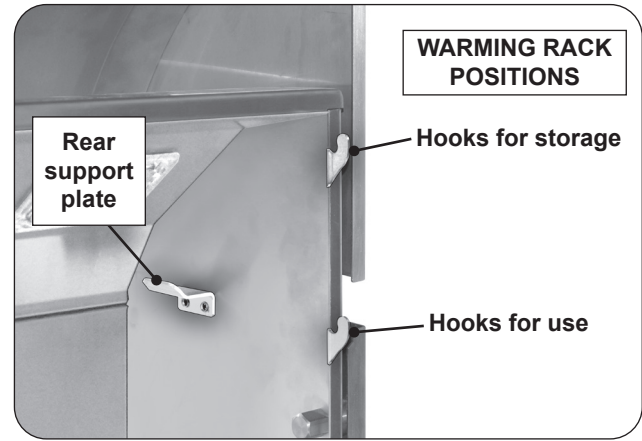
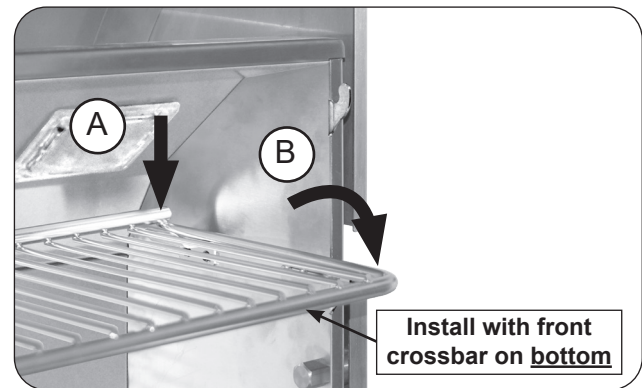
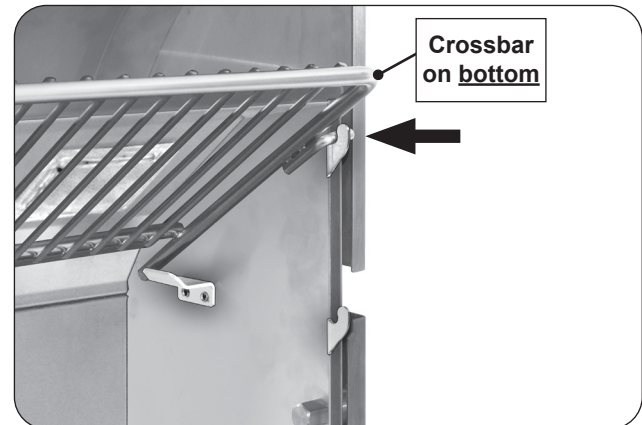

Fig. 32-1 Warming rack hooks
Fig. 32-2 Place warming rack for use
Fig. 32-3 Place warming rack in storage position
1. Locate the warming rack hooks and rear supports found on the upper portion of the grill oven (see Fig. 32-1).
2. With the warming rack oriented as shown, carefully rest the rear of the rack onto the rear support plates (Fig. 32-2, A), then rest the warming rack arms onto the two lower hooks for use (Fig. 32-2, B). Use the top hooks for storage (see Fig. 32-1 and Fig. 32-3). Placing the warming rack in storage position or removing the warming rack before using the rotisserie will leave more clearance for the meat being cooked (if applicable).